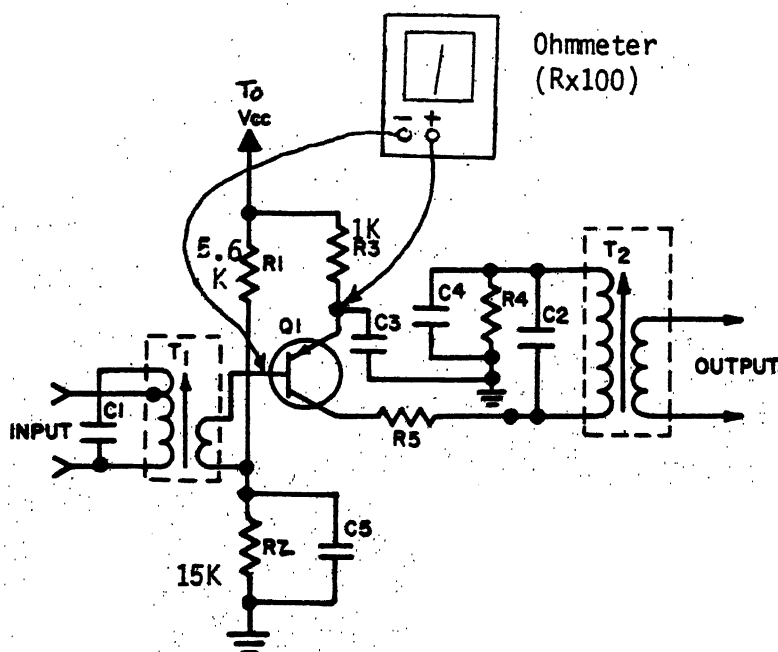

Figure 4
**Test 1.** In the circuit of Figure 4, the base-emitter junction of Q1 is forward biased by the ohmmeter. R1 and R3 parallel the junction, but are much larger than the junction resistance.